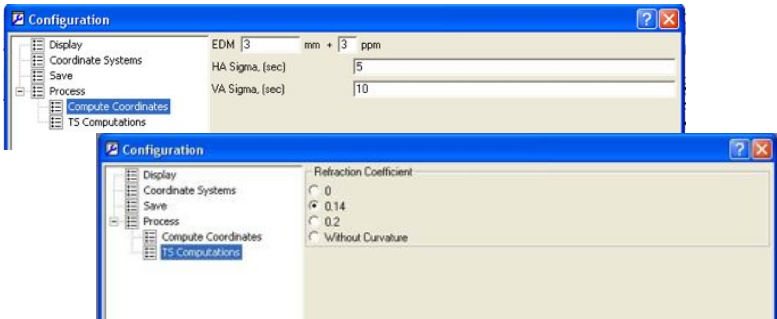

Figure 3-16. Set Processing Properties
5. In the *Process Compute Coordinates* pane (Figure 3-16), type in distance and angle measurement errors to take them into account when computing the coordinates of station using directions observed from the station to points of known positions (resection method). Click **Ok** to save and exit.
calculation of the coordinate (Figure 3-16). Click **Ok** to save and exit.